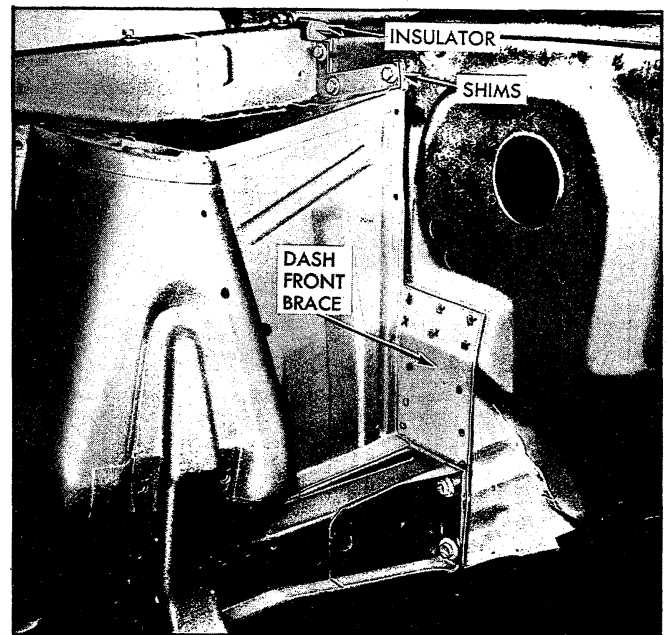

Fig. 26 - Skirt Mounting Bolts
11. Remove four bolts retaining skirt assembly to dash front brace. Remove 3 bolts retaining upper end of skirt to dash (fig. 26); record shims removed.
1. Position skirt assembly on vehicle with insulator, shown in Figure 26, in place and original shims installed at top dash mount.